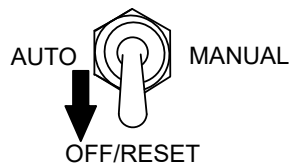

Figure 60. Auto Start/Stop Switch (Off/Reset Position)
5. Place the **Auto Start/Stop switch** (Figure 60) in the **OFF/RESET** position.